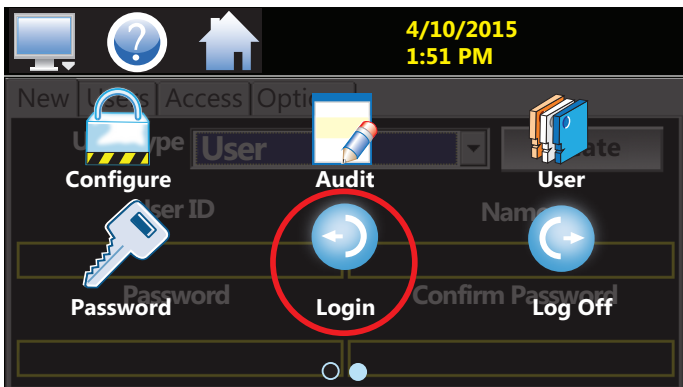

Fig. 16: Select Login Icon
3. Default Supervisor Account Setup: Press HOME, then MONITOR icons. Swipe the screen left to right to go to the LOGIN icon (Fig. 16). Press this icon to open the log in module.